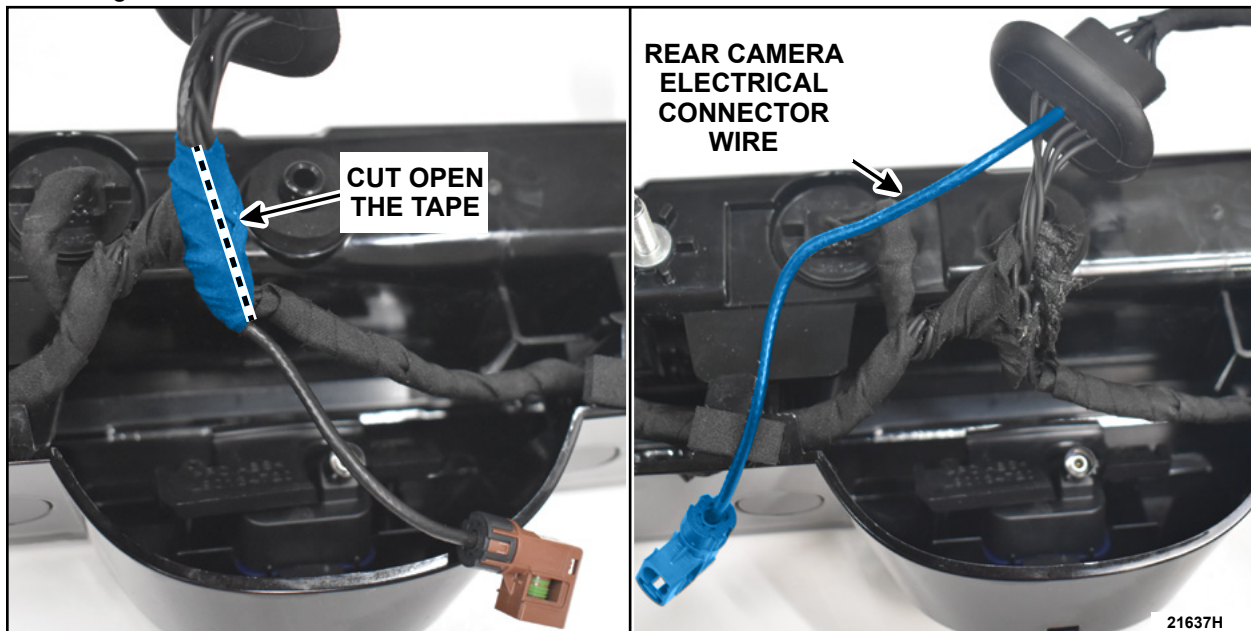

FIGURE 2
3. Cut open the tape and isolate the rear camera electrical connector wire from the taped up bundle. See Figure 2.